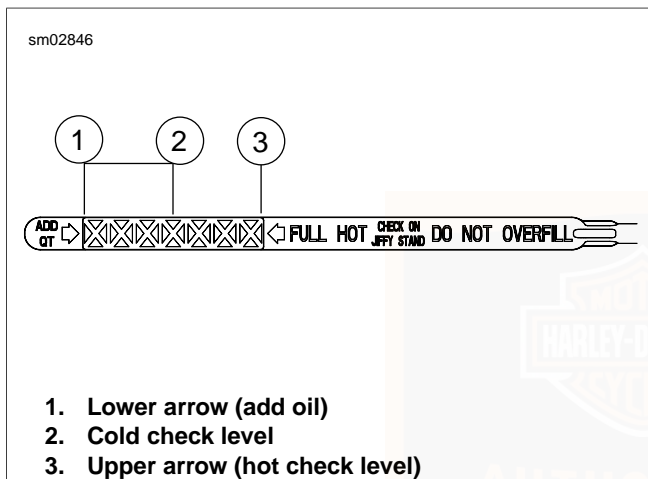

Figure 23. Engine Oil Dipstick
2. See Figure 23. Remove the dipstick and note the level of the oil. Oil level should register between the two marks on the dipstick. If oil level is at or below the lower arrow, add only enough oil to bring the level in the middle of the two marks (1) on the dipstick.
See Figure 23. For cold check level, do not exceed midpoint on dipstick when filling with oil.